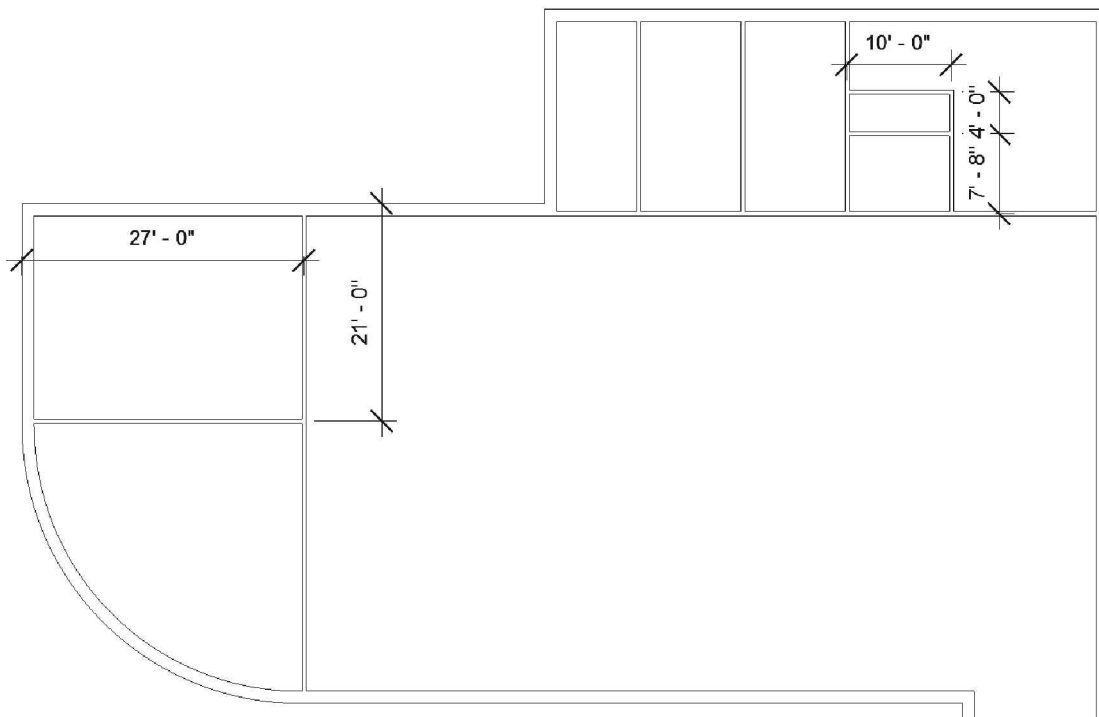

FIGURE 5-3.16 Level 2: Remaining wall to be added (detail level set to Coarse for clarity)
36. Draw the five walls shown in Figure 5-3.16. Do not add the dimensions at this time.